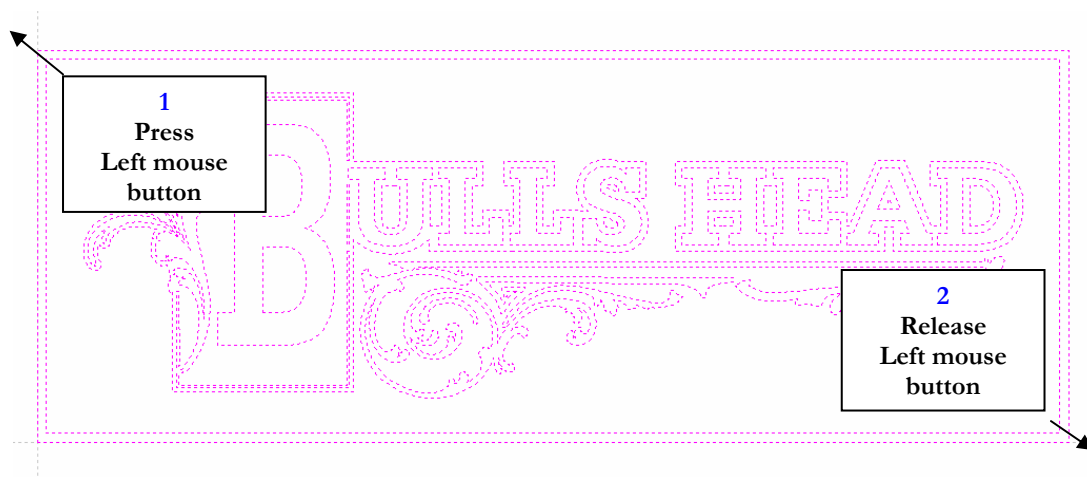

Figure 3. Select the vectors to V-Carve
5. Use the **Box selection** mode to select all the vectors in this design as shown in Figure 3.
**Note:** The selected vectors are drawn as **dotted purple lines** as shown in Figure 3 below.